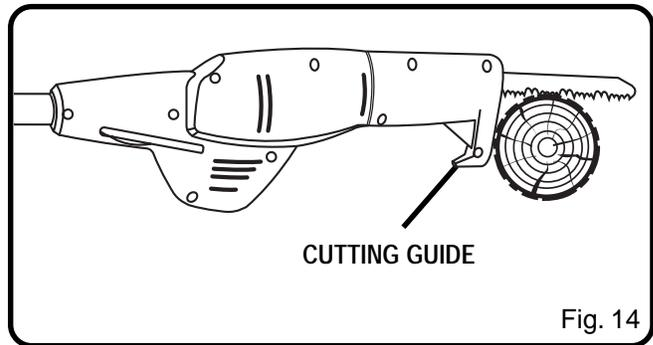

Fig. 14
- For second and final cuts (from top of limb or branch), hold the front cutting guide against the limb being cut. This will help steady the limb and make it easier to cut. *See Figure 14.*